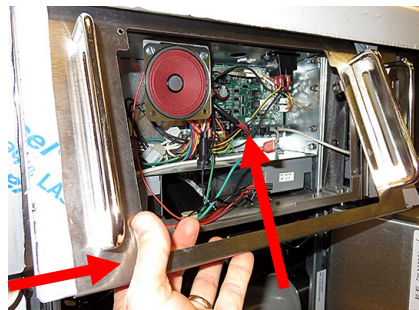

Figure 21
23. Open the doors of the fryer and locate the blower (see Figure 21).